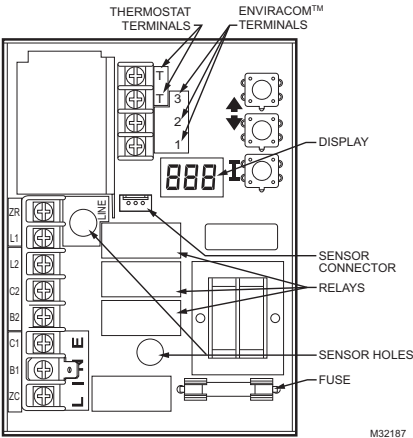

Fig. 5. Circuit board, showing sensor connection and well holes for vertical mount models.
- 3. Carefully align replacement sensor with hole in circuit board and guide through Aquastat case and into well. (See Fig. 5).
- 5. Connect sensor to circuit board by pressing connector on sensor unit into mating connector on circuit board (See Fig. 5).
To discourage unauthorized changing of Aquastat settings, a procedure to enter the ADJUSTMENT mode is required. To enter the ADJUSTMENT mode, press the UP, DOWN, and I buttons (Refer to Fig. 5) simultaneously for three seconds. Press the I button until the feature requiring adjustment is displayed: